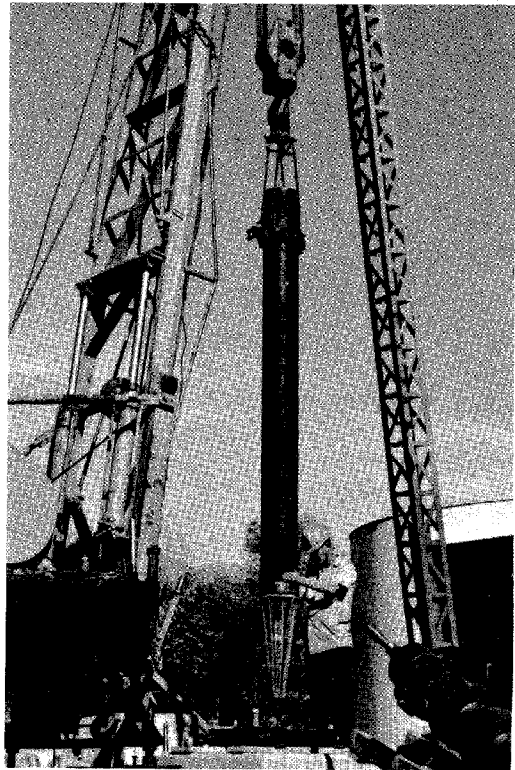

Fig. 7-1. Suction Pipe Hoisted Over Well.
A. The hoisting rig should now be set up. The installation instructions given in this manual are based upon the use of a mobile power-operated hoist such as that shown in Fig. 7-1. This affords the greatest convenience for pump installation. If any other hoisting arrangement is used, it will be necessary for the installer to interpret these instructions to suit the requirements of his equipment.
1. Securely fasten an elevator clamp near the top of the suction pipe approximately two feet below the threads. This position will prevent distortion at the threads and will permit easy make-up of the joint. Attach a sling to the elevator clamp and pass the looped end over the hoist hook. (See Fig. 7-1.) While a workman supports the lower end of the suction pipe (and strainer, if used), hoist it into position over the well.